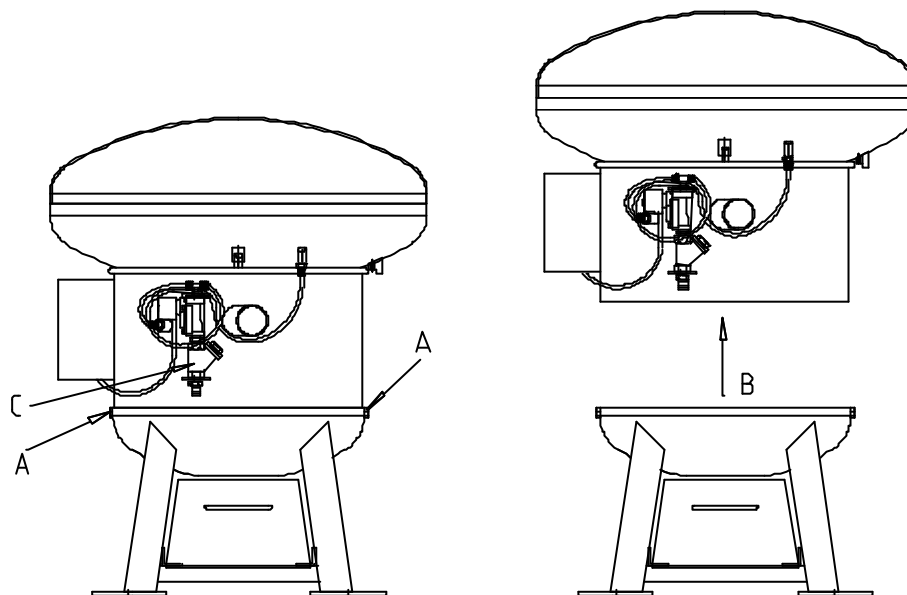

Figure 6: Opening the Ball Washer
To obtain the best cleaning results and economy, the Ball Washer must be opened and cleaned inside. Unscrew the upper section: see Figure 6 at (A). Lift off the upper section: see Figure 6 at (B). Then clean.
Remove the dirt sieve (no. 10 510) located in the water valve, then clean it: see Figure 6 at (C).